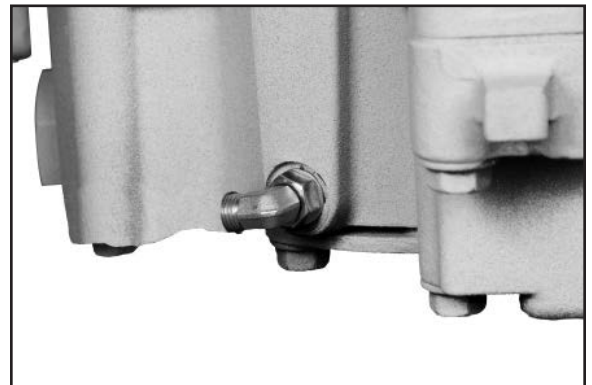

Figure 22 (Left side shown)
9. Remove the transmission high pressure port plug and securely install the 90-degree elbow fitting (379486) supplied with the PTO (**Fig. 22**). See page 19 for pressure port locations on Allison transmissions. Torque fitting to 10-12 lb-ft.